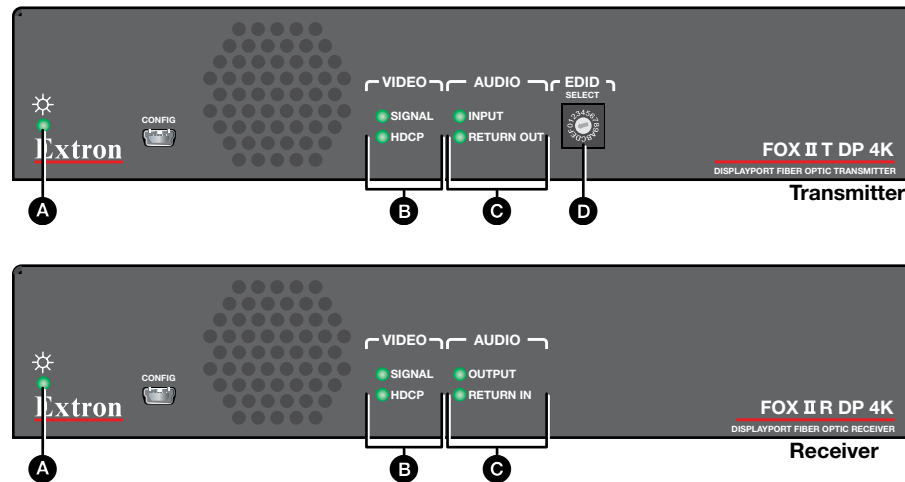

Figure 9. FOX II T/R DP 4K Transmitter Front Panel Features
- D EDID Select rotary switch** (see figure 9 on the previous page) — Set this switch to one of the positions below to select the source of the DDC or a specific resolution.